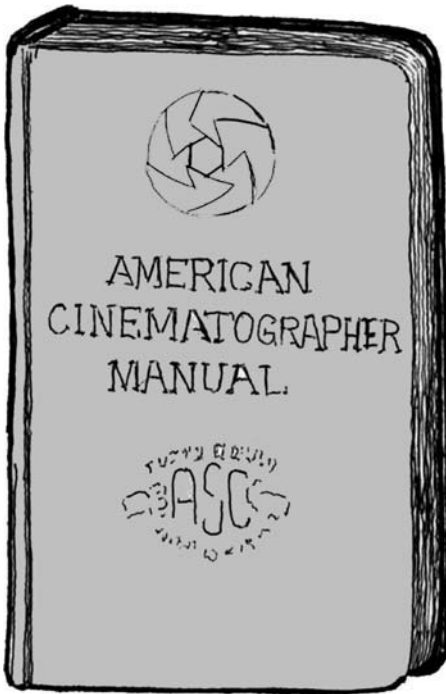

Figure D.18
- *American Cinematographer Manual (ASC Manual)* (see Figure D.18)